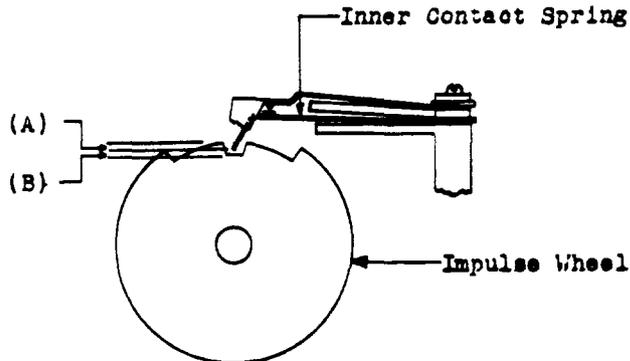

Fig. 4 - Inner Contact Spring Position
*2.05 Inner Contact Spring Position - 60B Selector Key - Fig. 4 (A) and (B): In the normal position the end of the inner contact spring shall enter the slot in the impulse wheel for a depth of
***2.16 Setting of Impulse Wheel - No. 60B Selector Key - Fig. 4 (C):** With the key in the normal position the inner contact spring shall approximately center in the recess of the impulse wheel. Gauge by eye.